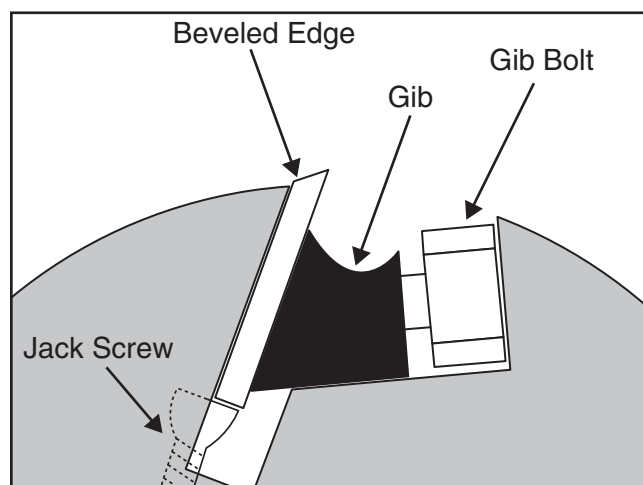

Figure 61. Knife correctly positioned in the cutterhead.
5. Turn the cutterhead gib bolts clockwise, starting in the middle, then alternating back and forth until the gib is loose (see **Figure 61**).
9. Make sure the beveled side of the knife is against the cutterhead, as shown in **Figure 61**.